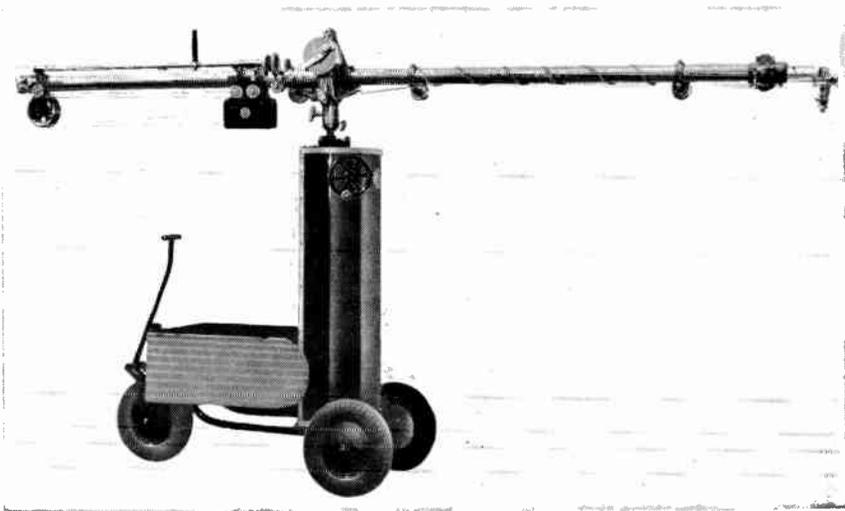

Fig. 19-17. Mole-Richardson microphone boom.
The Mole-Richardson boom (Fig. 19-17) is capable of several simultaneous adjustments, including the extension of the boom arm. The adjustments are: (1) panning of the boom arm (360 degrees); (2) tilting of boom arm (45 degrees above horizontal to 45 degrees below horizontal); (3) extension of mike boom (from a minimum length of 7 feet
The sides of the operating platform, shown in Fig. 19-17 folded down, will open up flat, and the operator stands on the right-hand side of the boom. His right hand operates the crank which extends or retracts the boom. His left hand holds a handle (shown projecting straight up) which, when he pulls it down, rotates the microphone. Panning and tilting of the boom are also controlled with this hand, by direct effort instead of a twisting movement. All controls can be locked by large-handled setscrews, so that when the boom is being moved and there is no operator at the controls, it will not swing wildly about. The microphone cable running to the boom is usually dropped down from overhead so that it will interfere as little as possible with operations in the studio. The only control which is lacking on this microphone boom is a means of tilting the mike. This has been found desirable in motion pictures, and Paramount added such a control to the boom so that the same hand which handles the crank for boom extension could also control microphone tilt.